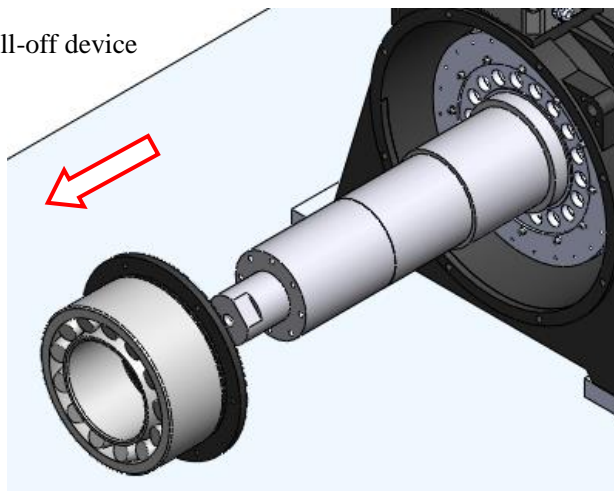

Figure 143: Remove bearing
8. Pull out the bearing with the bearing puller. See Figure 143.